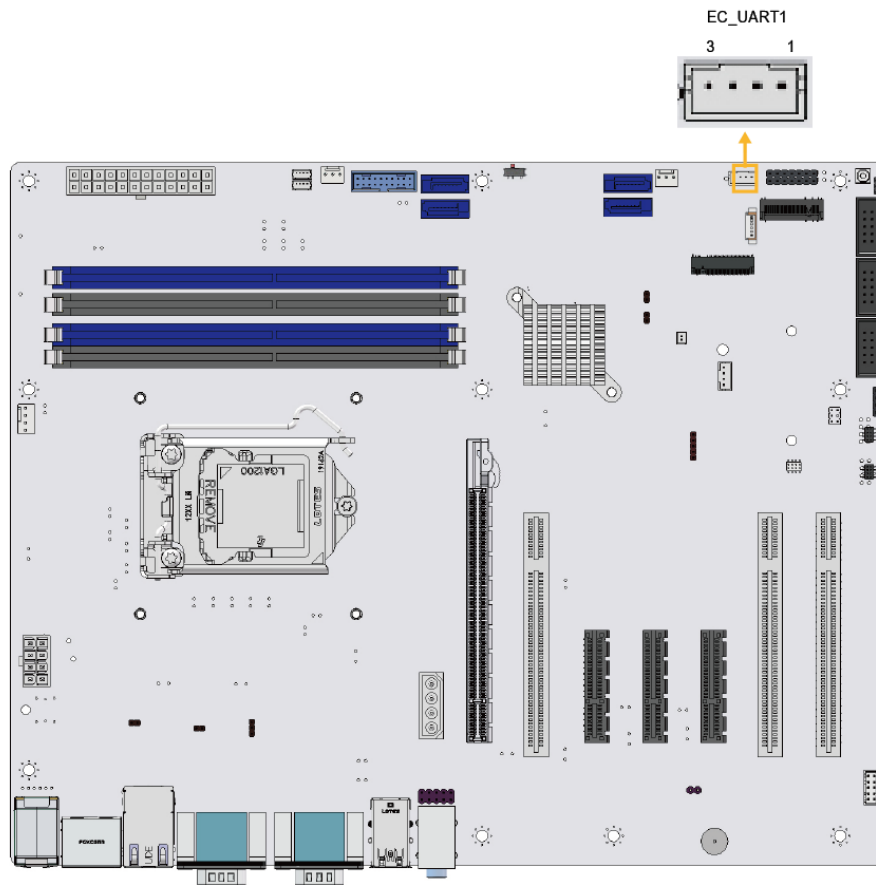

Figure 3-9: EC UART Debug Connector Location
- CN Location:** See Figure 3-9